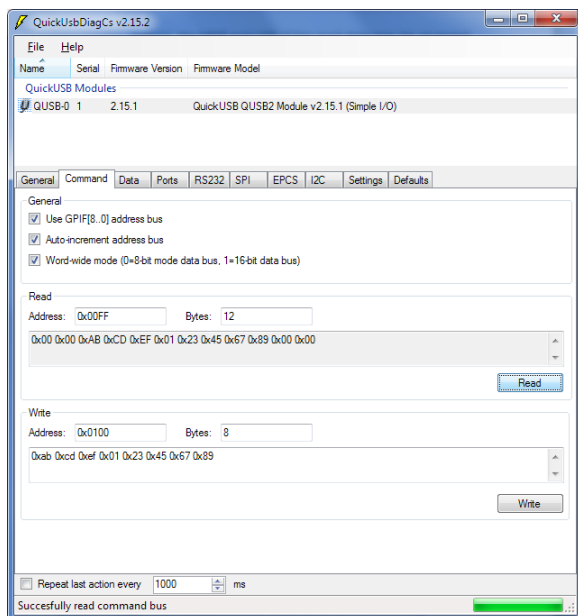

Figure 7 – QuickUSB Diagnostics “Command” Tab
- a. Click on the “Command” tab (see Figure 7)
- c. Click the “Read” button to read the Command RAM. Because we indicated a read address one word before our write, and because we are reading two extra words, you will read the words both before and after the data written earlier (See Figure 7), which will be zero as the FPGA memory blocks initialize to zero.